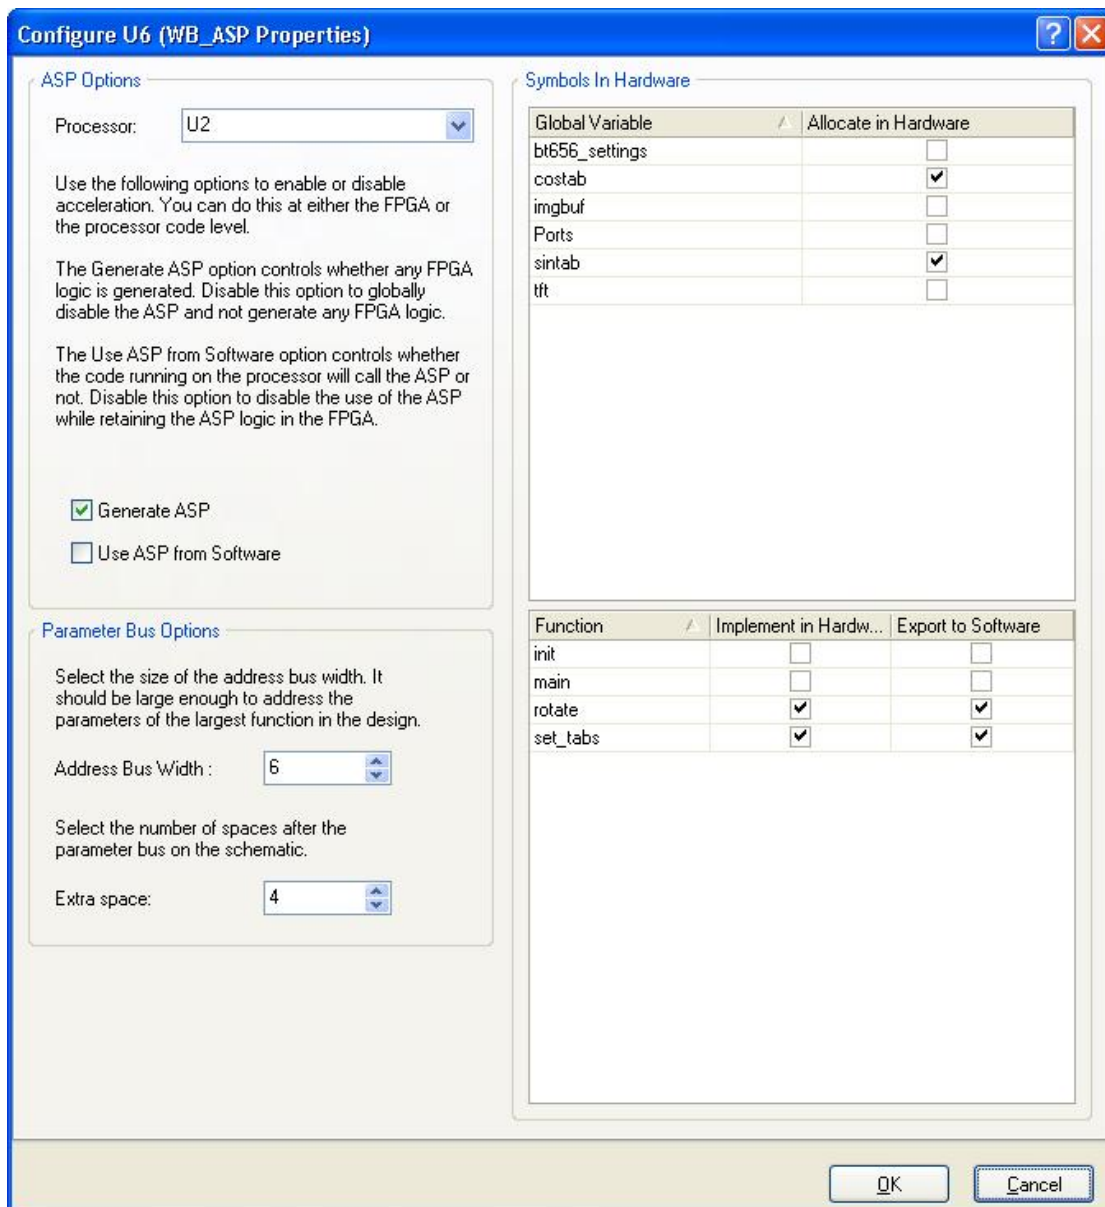

Figure 69. Configuring the wishbone ASP
2. Configure the WB_ASP **U6** to match the parameters in figure 69.